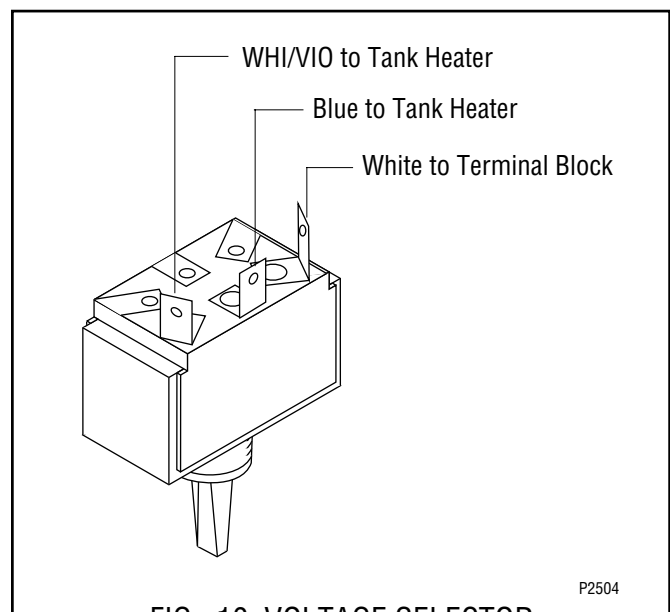

FIG. 10 VOLTAGE SELECTOR SWITCH TERMINALS
5. Refer to FIG. 10 when reconnecting wires to the switch.